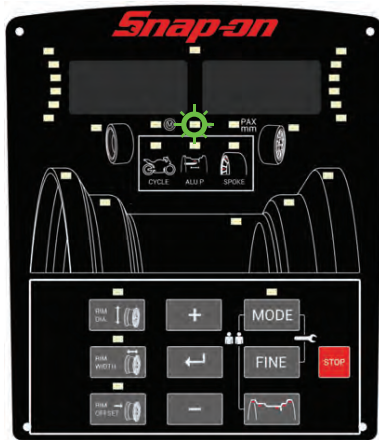

Figure 31b
- The display will now look like Figure 31b.